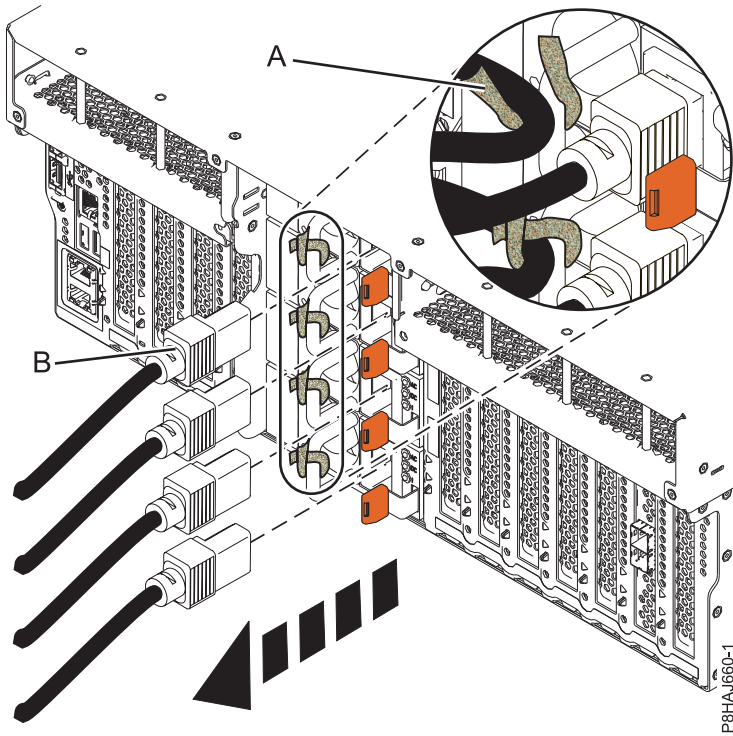
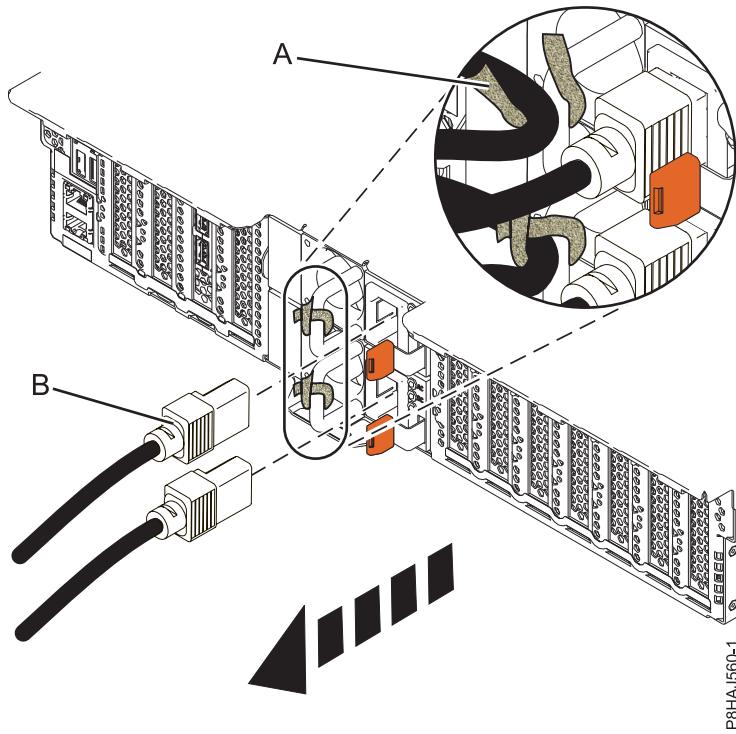
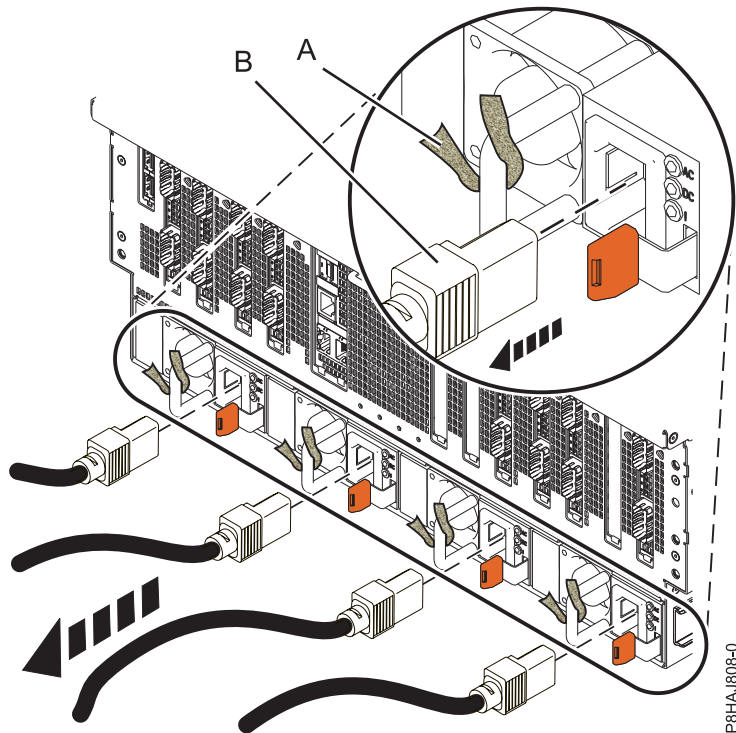

Figure 74. Removing the power cords from an 8247-42L, 8286-41A, or 8286-42A system
Figure 75. Removing the power cords from an 5148-21L, 5148-22L, 8247-21L, 8247-22L, 8284-21A, or 8284-22A system
Figure 76. Removing the power cords from an 8408-44E or 8408-E8E system
3. Disconnect the power cords (**B**) from the system unit. See Figure 74 on page 99, Figure 75 on page 100, or Figure 76 on page 100 or depending on the type of your system.